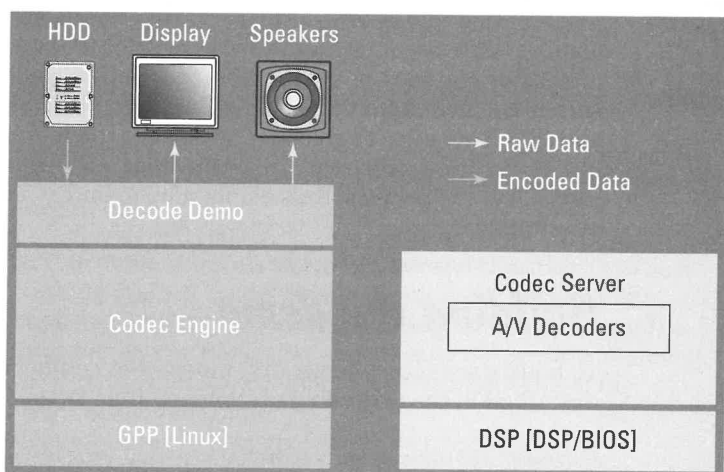

Figure 10-1: Here's a simple overview of the DVSDK decode demo.
The DVSDK decode demo — illustrated in Figure 10-1 — uses the Codec Engine (CE) as well as video, audio, and speech algorithms to decode video and sound data from files on your device's Linux file system. The output is sent to Linux device drivers controlling the video and audio peripherals on the OMAP3530 EVM.